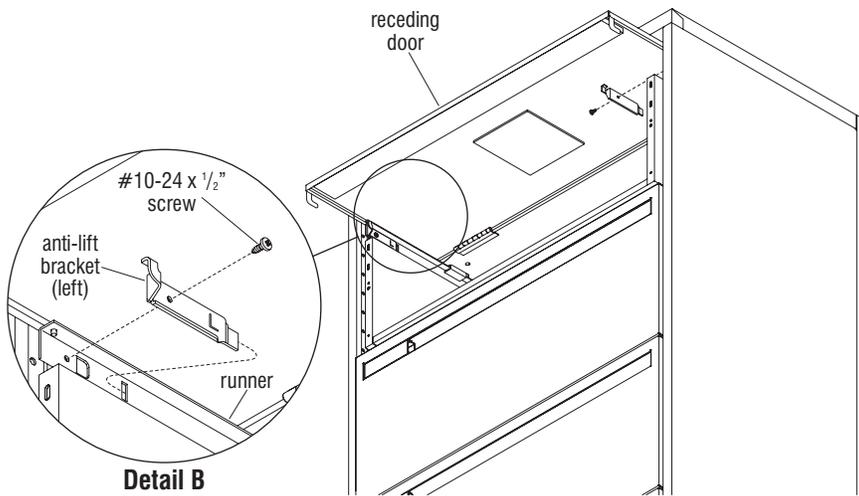

Figure 4
1. Open receding door until it extends 3 to 4 inches from the front of the cabinet (Figure 4).
3. Locate the left and right anti-lift brackets (left shown in Detail B). Remove the #10-24 x 1/2" retaining screws from both brackets with Phillips screwdriver (Figure 4 & Detail B).
4. The anti-lift brackets are then held to the runners via a slip connection slot. Remove brackets by rotating the bracket towards the center of the cabinet, and pull the bracket from the slot in the runner as shown (Figure 4 & Detail B).